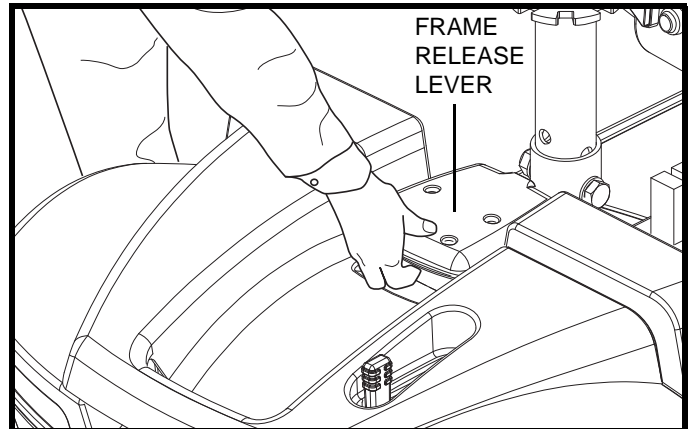

Figure 23. Frame Release Lever
3. Grasp and lift up on the frame release lever. **See figure 23.**
2. Use the frame release lever to lift the front section as you align the frame hooks of the front section with the lower frame tube of the rear section. **See figure 23.**